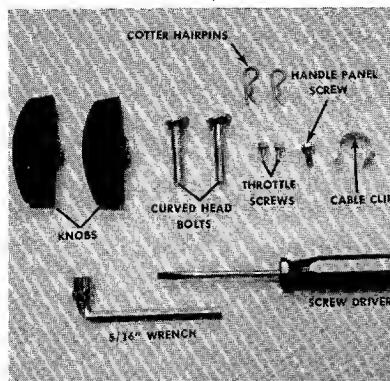

FIGURE 1. LOOSE HARDWARE AND TOOLS
1. Remove the loose hardware from the assembly pack. You will need a screwdriver and a 5/16" wrench, either a socket as shown in figure 1 or an open end wrench.